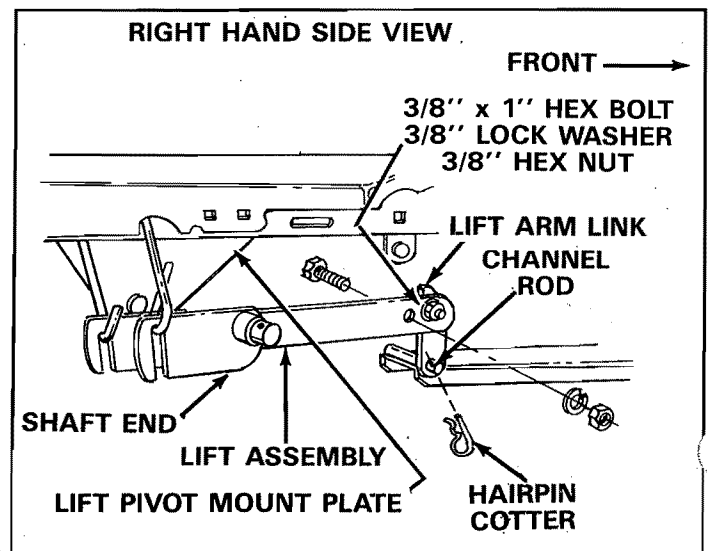

FIGURE 13
10. Assemble one 3/8" x 1" hex bolt through second hole from end of long arm. Secure with one 3/8" lock washer and one 3/8" hex nut. This bolt is used as a limit stop for the lift arm link. See figure 13.
12. Hook lift assembly arms over both link rods, assemble lift arm link over channel rod and secure with one 1/8" (large) hairpin cotter. See figure 13.